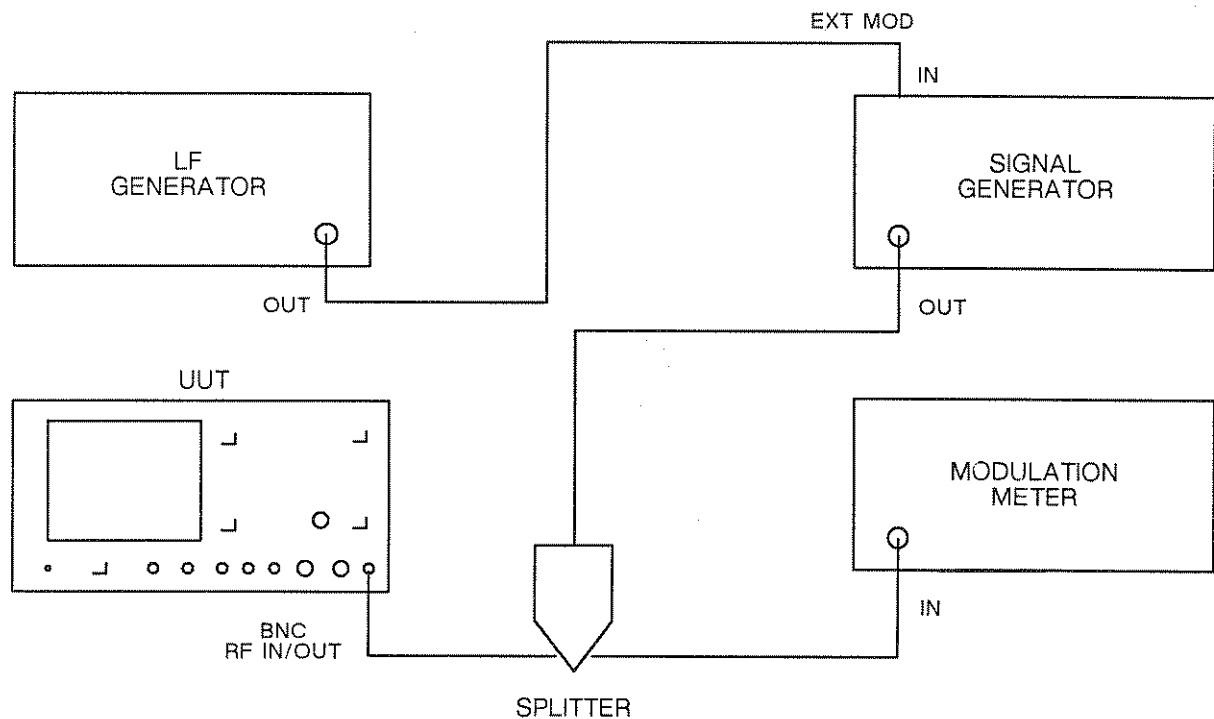

Fig. 5-5 Test equipment connections for modulation meter AM and FM
- (2) Set the UUT to TX, AM, 0.3 to 3.4 kHz BAND PASS filter, BNC input socket.
- (3) Set the signal generator to carrier frequency 100 MHz, level 7 dBm, 80% AM, 1 kHz internal modulation rate.
- (4) Set the modulation meter to monitor AM in a 0.3 to 3.4 kHz bandwidth.
- (5) Check that the AM level indicated on the UUT display is within $\pm 5\%$ of reading ± 1 digit of modulation depth indicated on the modulation meter. Check that the AM bar chart indicates the AM being applied.
- (6) Repeat the above for modulation depths from 0 to 90% and carrier frequencies between 1.5 and 100 MHz.
- (7) Repeat for modulation depths from 0 to 80% and carrier frequencies between 1.5 and 400 MHz.
- (8) Connect an LF generator to the signal generator as shown in Fig. 5-5.
- (1) Connect the equipment as shown in Fig. 5-5.
- (2) Set the UUT to TX, FM, 0.3 to 3.4 kHz BAND PASS filter, distortion/SINAD/SN off, BNC input socket.
- (3) Set the signal generator to carrier frequency 500 MHz, level 13 dBm, 25 kHz FM, 1 kHz internal modulation rate.
- (4) Set the modulation meter to monitor FM in a 0.3 to 3.4 kHz bandwidth.
- (5) Check that the FM level indicated on the UUT display is within $\pm 5\%$ of reading ± 1 digit of modulation deviation indicated on the modulation meter. Check that the FM bar chart indicates the FM being applied.
- (6) Repeat the above for random carrier frequencies from 1.5 to 1000 MHz and random deviation between 0 and 25 kHz.
- (7) Set the UUT to TX, FM, 15 kHz LOW PASS filter, BNC input socket.
- (8) Set the signal generator to carrier frequency 500 MHz, level 13 dBm, 25 kHz external FM at 10 kHz modulation (from the LF generator).
- (9) Set the modulation meter to monitor FM in a 30 Hz to 50 kHz bandwidth.
- (10) Set the synthesized LF generator to give a 10 kHz sinewave. Adjust the level to suit the external modulation input of the signal generator.
- (11) Check that the modulation level indicated on the UUT display is within $\pm 6.5\%$ of the modulation indicated on the modulation meter. Ensure that the correct filters are selected on both the UUT and the modulation meter according to the modulation rate being used.